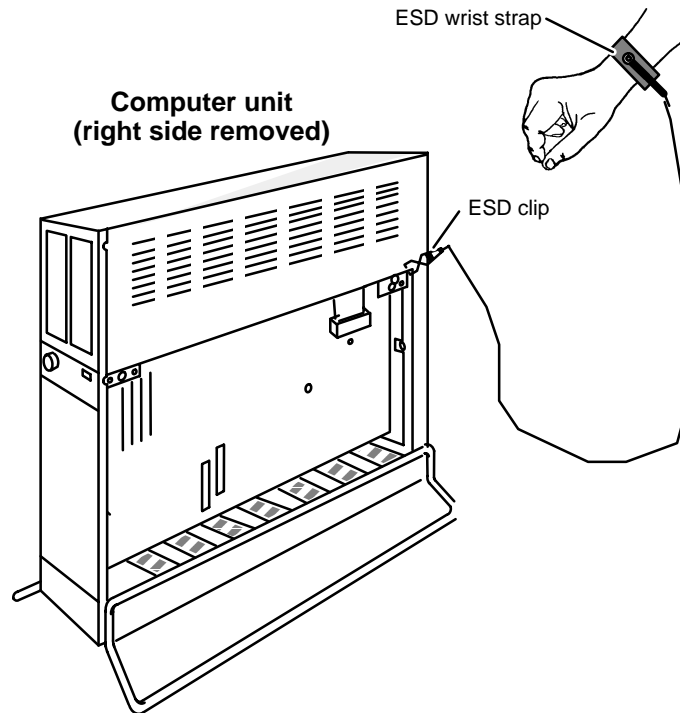

Figure 6-7 Attaching the ESD Wrist Strap and Clip
- Put on the ESD wrist strap and attach the ESD clip to any unpainted metal surface of the chassis as shown in Figure 6-7.